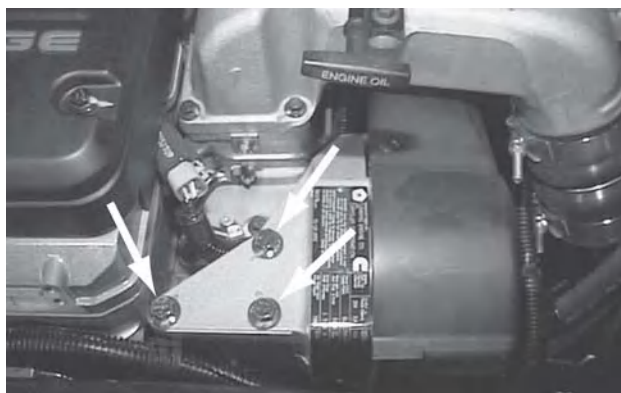

Fig. 12b
- a. Reinstall the Throttle Position Sensor assembly. See figure 12b.
- b. Torque the three (3) cap screws to 48 N.m (35 ft lbs).